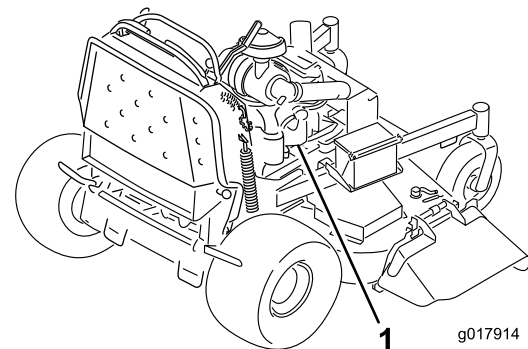

Figure 55
7. **Make the final connection on the engine block of the stalled vehicle (not to the negative battery post) away from the battery and stand back (Figure 55).**